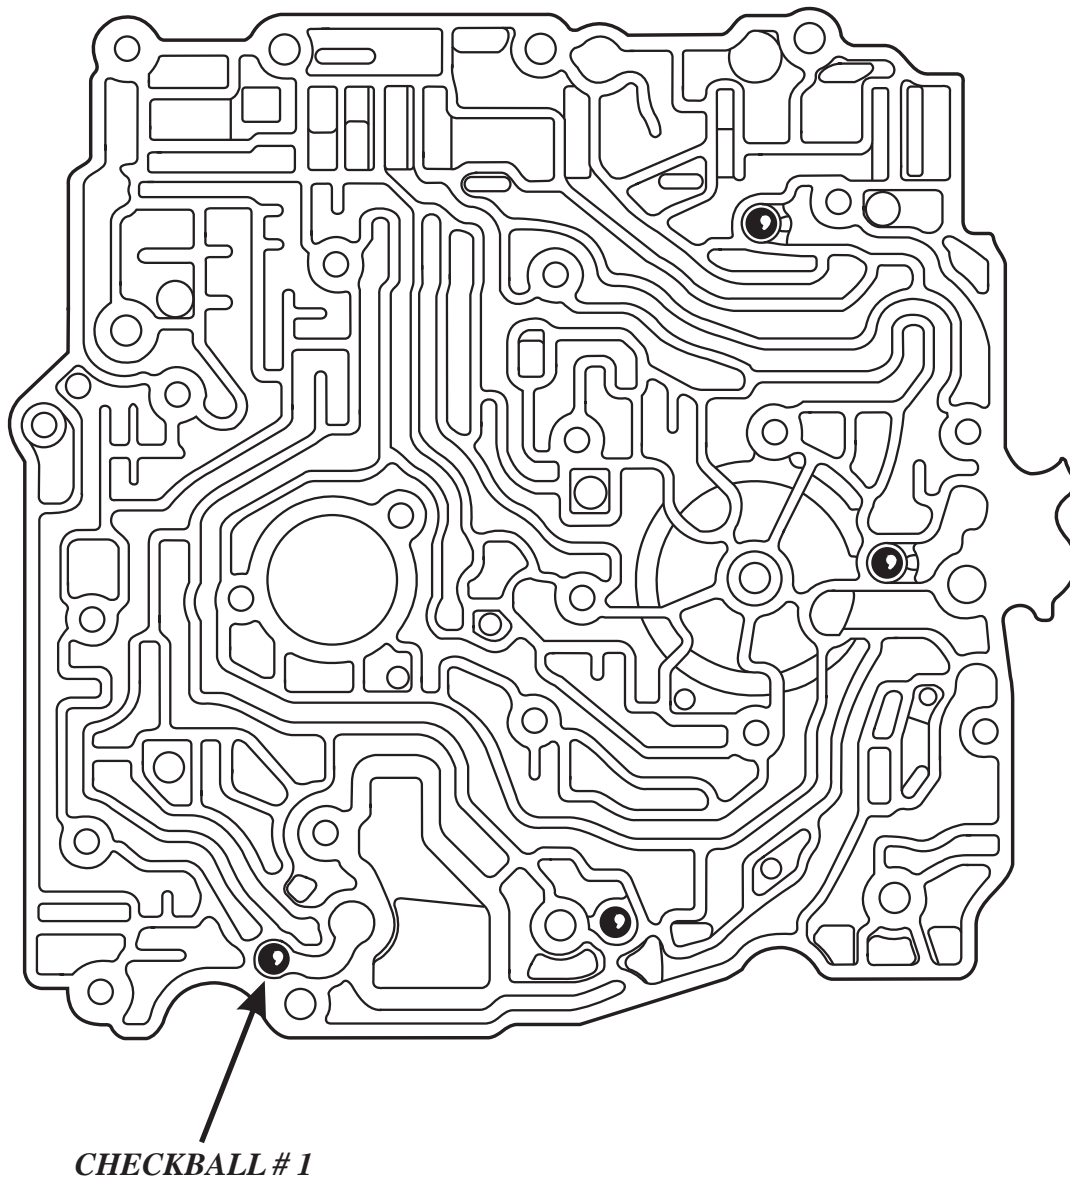

Figure 7
Look for metal particles or debris that would not allow the # 1 checkball to seat properly. Clean or remove debris from the channel plate area as needed. (See figure 7)
*Refer to Figure 7 for the Volvo TCM wiring diagram.*